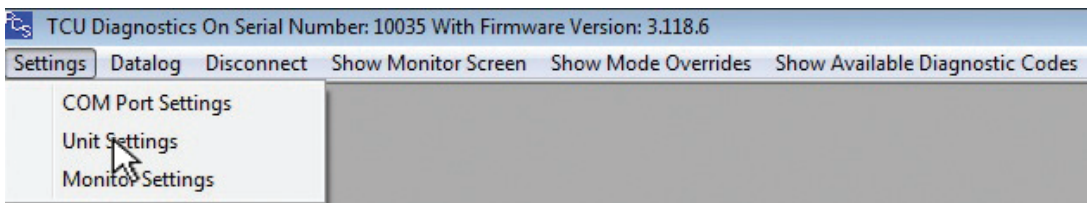

Figure 1
1. Select "Settings" from the menu bar then select "Unit Settings" from the drop down menu. **Reference Figure 1.**